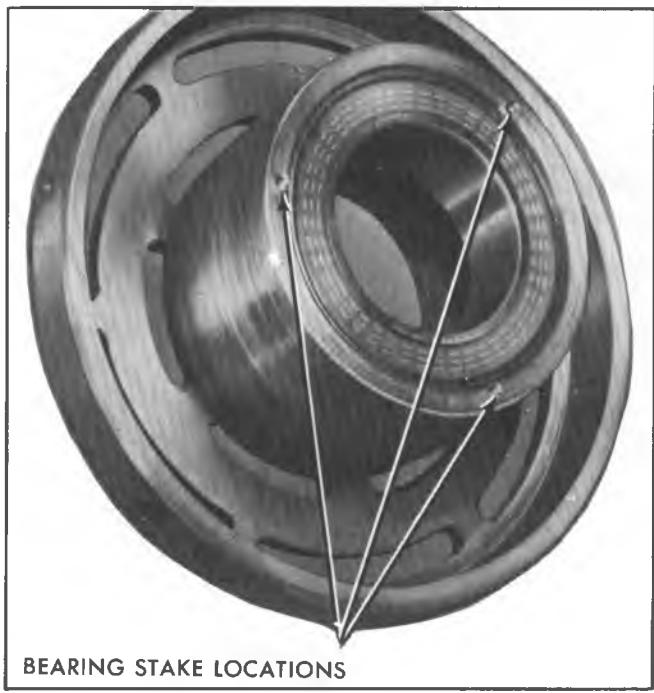

Fig. 80--Bearing Stake Locations
The clutch coil and housing assembly is pressed onto front head of compressor with an interference fit and will not be removed unless pulley rim mounting screws are left securely in place and pulley rim pulls coil and housing assembly off with total clutch rotor and pulley rim assembly (Fig. 80).
2. Place rotor and bearing assembly on blocks (Fig. 81) and drive bearing out of rotor hub with rotor bearing remover and rotor assembly installer J-25029. It will not be necessary to remove the staking at the rear of the rotor hub to remove the bearing. See Figure 80.
3. Stake bearing in place with a 45° angle punch (Fig. 80) but do not stake too deep (.045 - .055 inch) and possibly distort the outer race of bearing. Use new stake locations 120° apart. Do not use old stake locations.